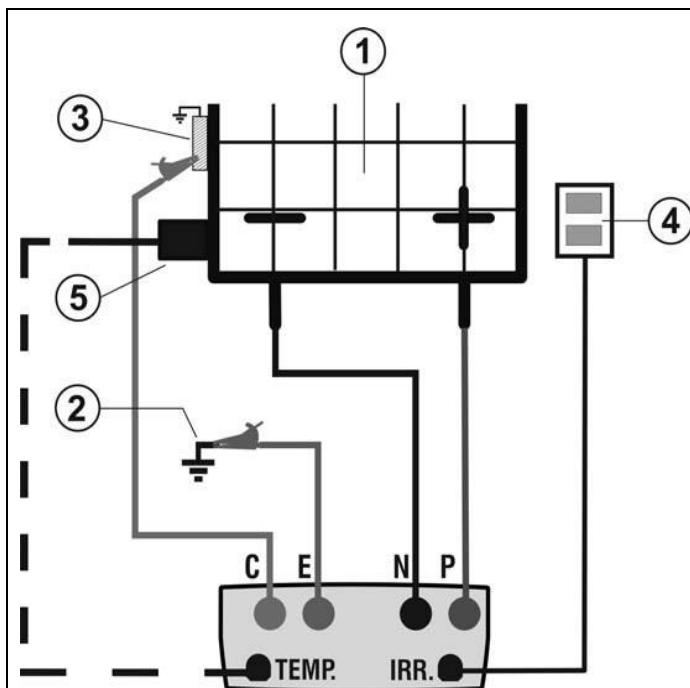
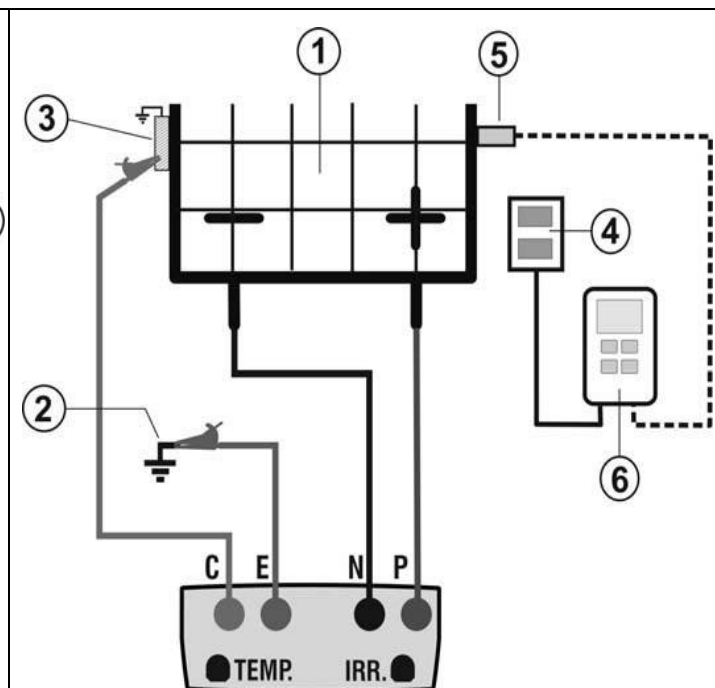

Fig. 8: Connection for IVCK test with direct irradiance measurement
Fig. 9: Connection for IVCK test with irradiance measurement through SOLAR-02
11. Connect the output of the cell corresponding to the type of module being tested to the **IRR.** input of the instrument using the cable supplied with the cell, or to the **PYRA/CELL** input of the remote unit SOLAR-02, if used (see Fig. 8 and Fig. 9)
12. If used, connect the temperature sensor to the **TEMP** input of the instrument and fasten it to the backside of the module under a cell using some adhesive tape. As an alternative, connect the sensor to the **TEMP** input of the remote unit SOLAR-02, if used (see Fig. 8 and Fig. 9)
13. Connect the instrument to the module/string being tested and, if necessary, to the main earth node of the system and to the earthed metal masses as shown in Fig. 8 and Fig. 9. In particular, connect the negative output pole of the module/string to terminal N and the positive output pole of the module/string to terminal P.